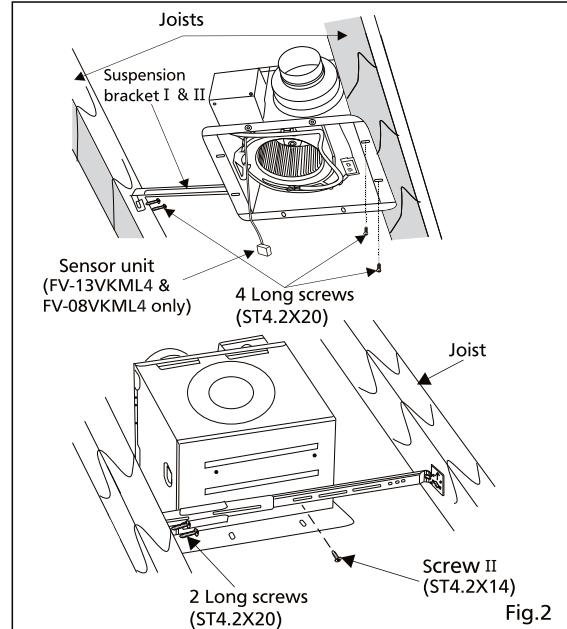

Fig.2
3. Install the suspension bracket and the flange of frame to joists by using long screws (ST4.2X20) and secure it to the fan body by using screw II (ST4.2X14). (Fig.2)